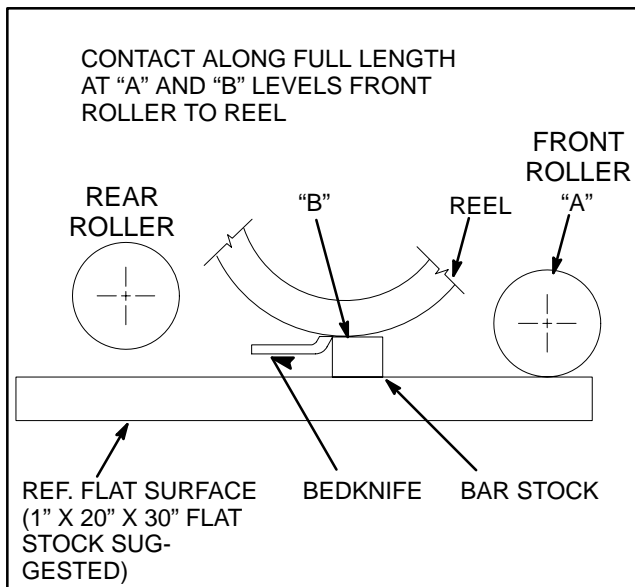

Figure 14
4. Position a 1/2" (13mm) or thicker bar under the reel blades and against the cutting edge of the bedknife. **Make sure bar covers the full length of reel blades.** Rear roller should not contact surface (Fig. 14).